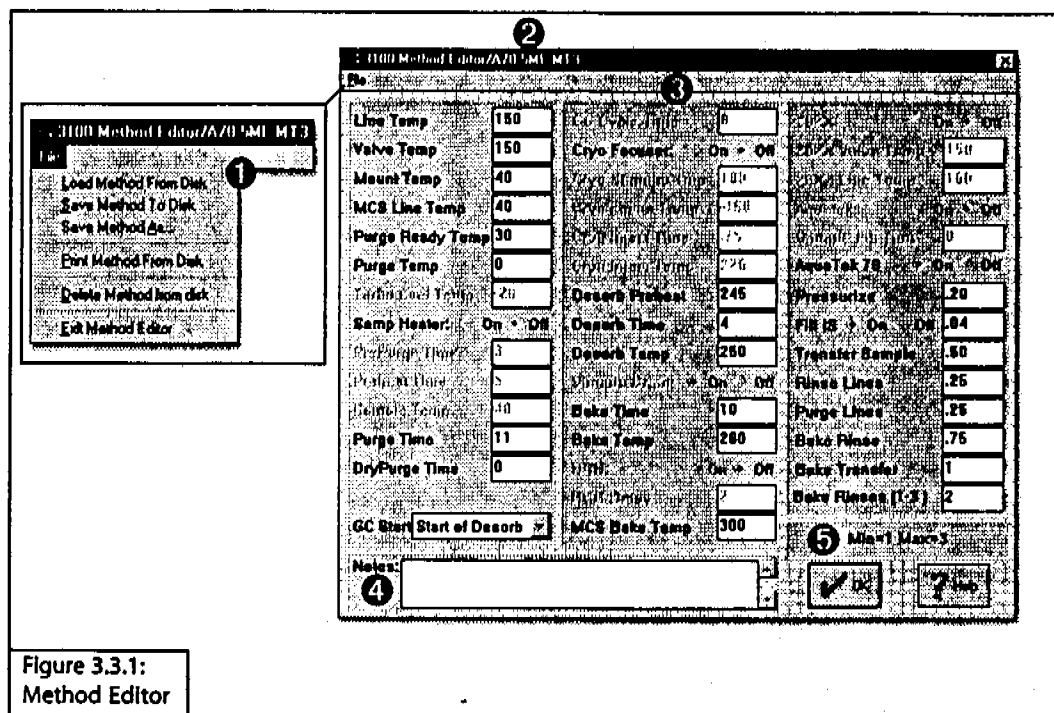

Figure 3.3.1: Method Editor
To access the Method Editor (Figure 3.3.1), select Instrument > Edit Method from the Control Screen.
The File menu (❶, Figure 3.3.1) of the Method Editor screen contains options for loading, saving, printing, and deleting method files.
Three columns (④, Figure 3.3.1) display values that define time, temperature, and other operational parameters for the current method. If a parameter and its value are uneditable (grayed out or not turned on), then the option required is not installed on your system or is not accounted for in the Configure Instrument screen.